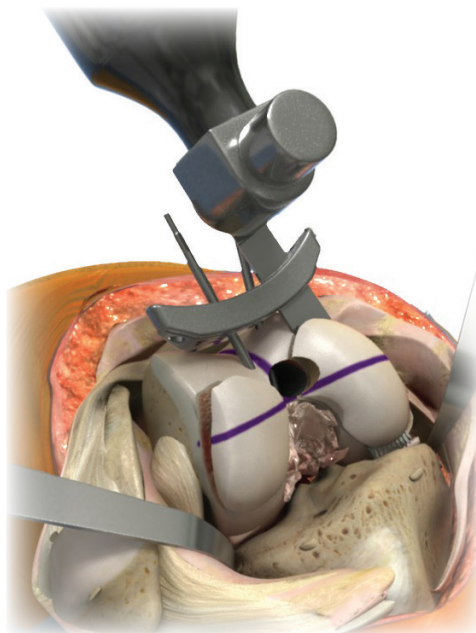

Figure 8
11. Once resection is complete then remove pins and the universal cutting block from the femoral bone and remove the cut bones from the distal condyles (Figure 8).